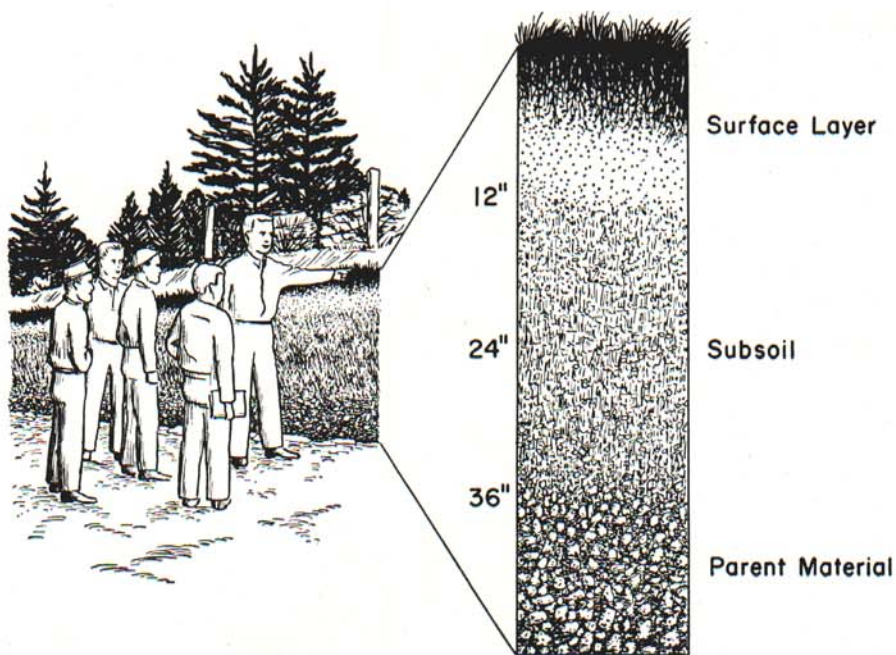

Fig. 1.—A soil profile looks like this.
(3) **Parent material** is the material from which the soil is formed. This layer is not now considered in the land judging score card. Fig. 1 shows how these three layers appear in a profile.